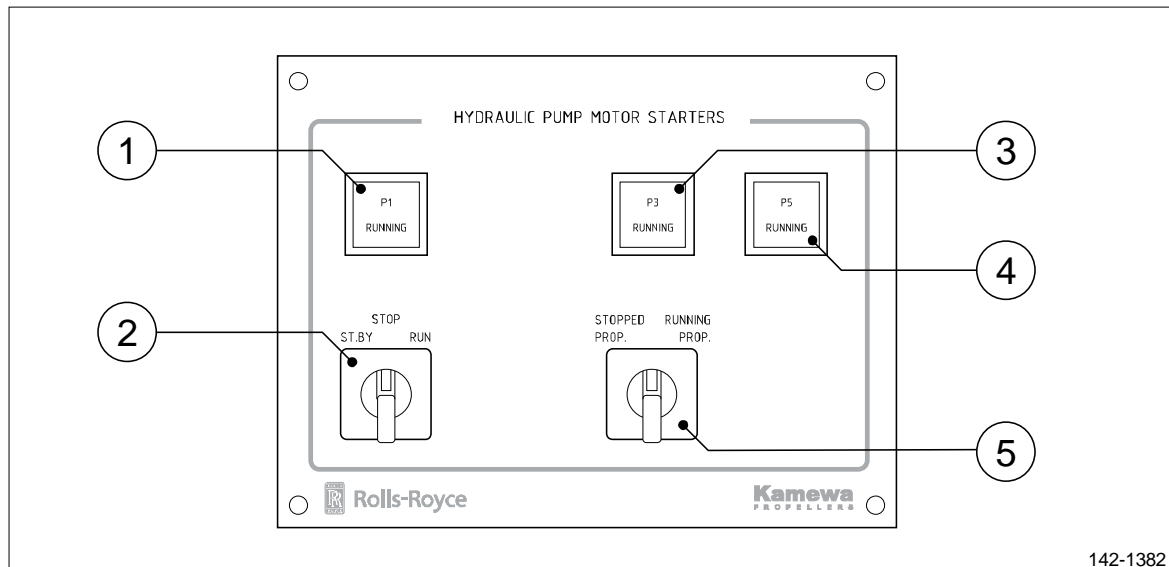

Figure 2 An example of a pump motor starter control panel.
2. Start pump unit P1 by turning the selector switch (see position 3 and 4, in figure 2) for the main pump unit to RUN position.
3. If the vessel is equipped with a gravity tank, turn the selector switch (see position 5, in figure 2) for pump unit P3 to RUNNING PROP. position.